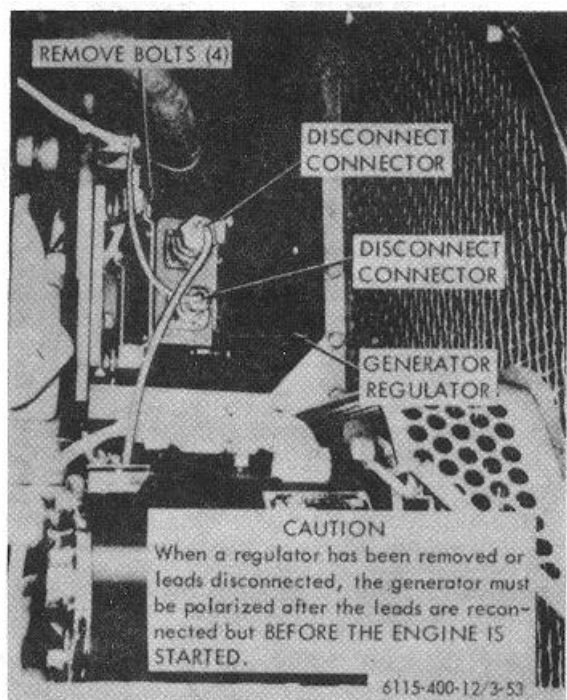

Figure 3-53. Generator regulator, removal and installation.
c. Removal and Installation. Refer to figure 3-53 and remove generator regulator.